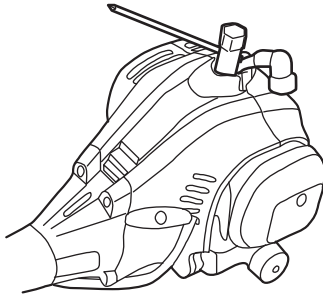

Fig. 39a
2. Unplug the spark plug connector (A2). Loosen the spark plug with the spark plug wrench (E2, E1) anticlockwise and carefully remove it. (See Fig. 39a)